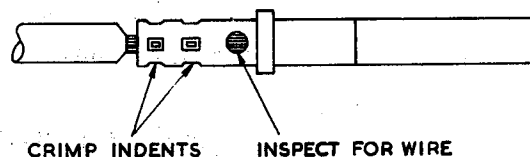

Fig. 7. Inspection of contact after crimp
(5) Visibility of the wire through the contact inspection hole indicates that it is correctly located.
(6) Fig. 7 illustrates the crimp indents and the inspection hole.